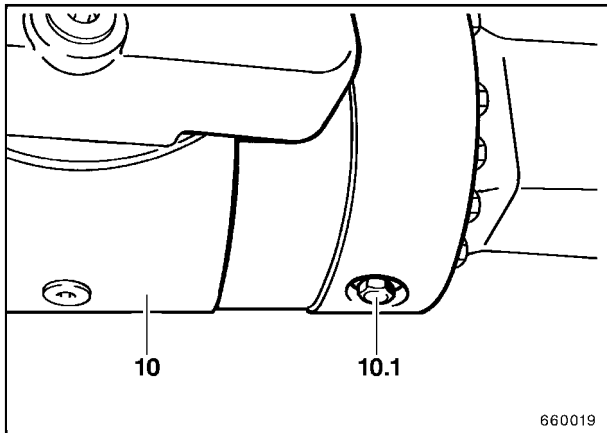

Fig. 9
- Turn out the screws (10.1, Fig. 9) when the gearbox oil has been removed.